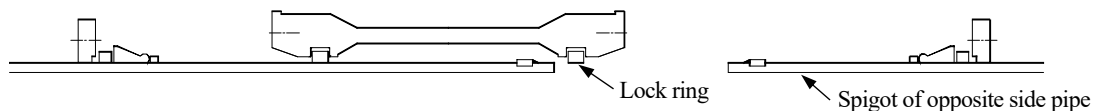

Figure 22 Set of lock ring to opposite side socket
- 7) Shift the collar to the opposite side pipe slightly then set the lock ring to the opposite side socket (see Figure 22).